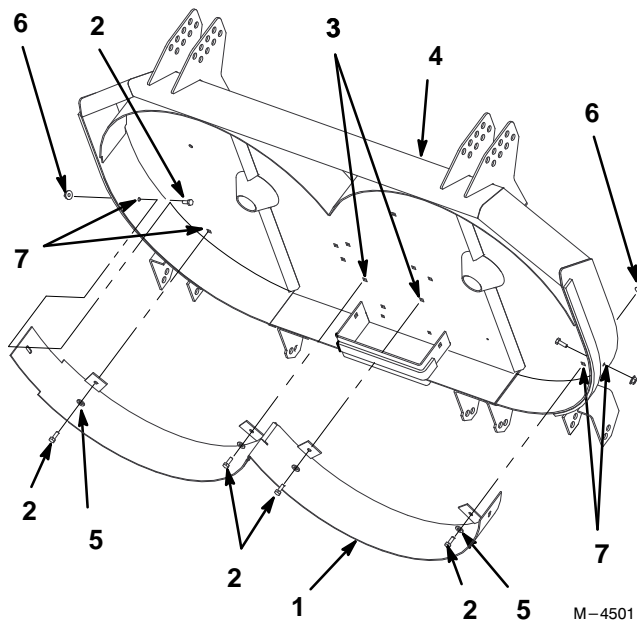

Figure 3
Note: There are two holes that already exist for installing the baffle. (Fig. 3).
1. Place baffles in the cutting chamber (Fig. 3).
2. Install a bolt with washer into baffle and two existing holes containing retainer nuts (Fig. 3).
6. Install and tighten all mounting hardware securely (Fig. 3).